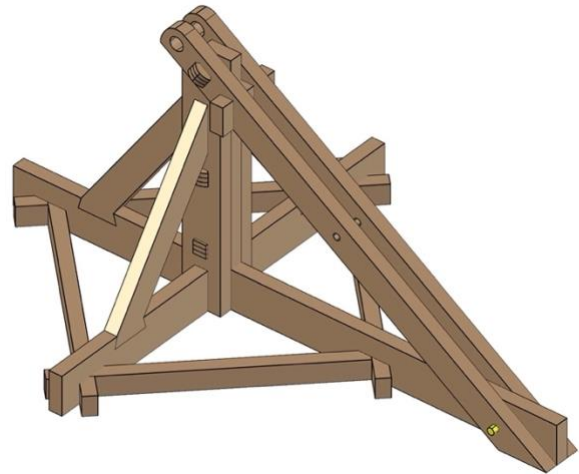

Fig. 58
- Fig. 58 shows the completed process.